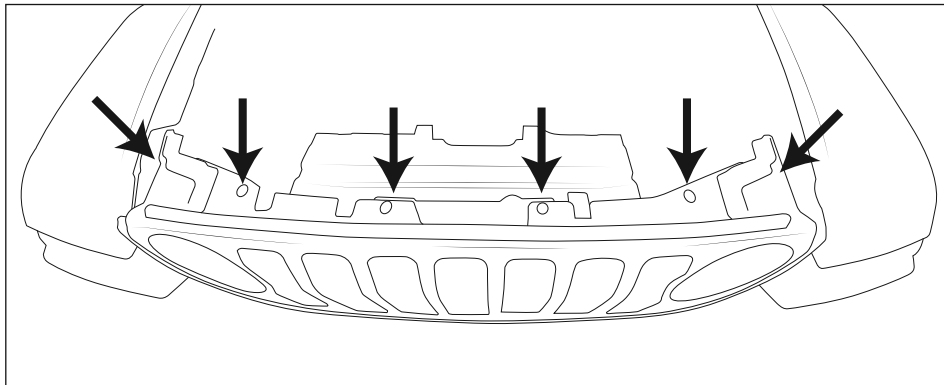

Figure 2
B. Open the hood and remove the 6 plastic push-rivets retaining the top of the grill shell to the radiator support (fig. 2). Remove the grill by grabbing the bottom flange and pulling straight outward. Once the push-rivets are removed at the top, the grill is only held in by the spring clips at the bottom. Don't pull too far, as the wiring harness and washer hose are still attached to the grill.